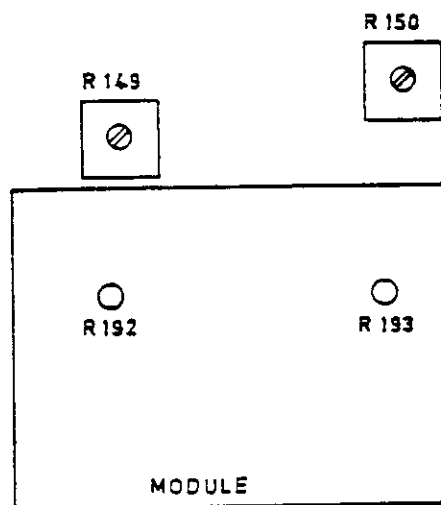

Figure 6.23 - Location of R150 and R193
6.7.3.2.1 Set R150 fully counterclockwise and R193 to its mid-position. R193 is located inside the screened module as shown in Figure 6.23.